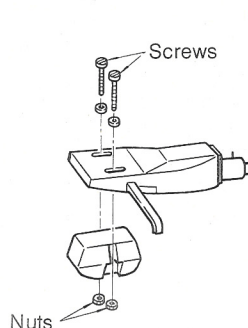

FIG. 24
2. Remove cartridge from headshell by removing the two screws and disconnecting the lead wires from cartridge, as shown in Fig. 24.